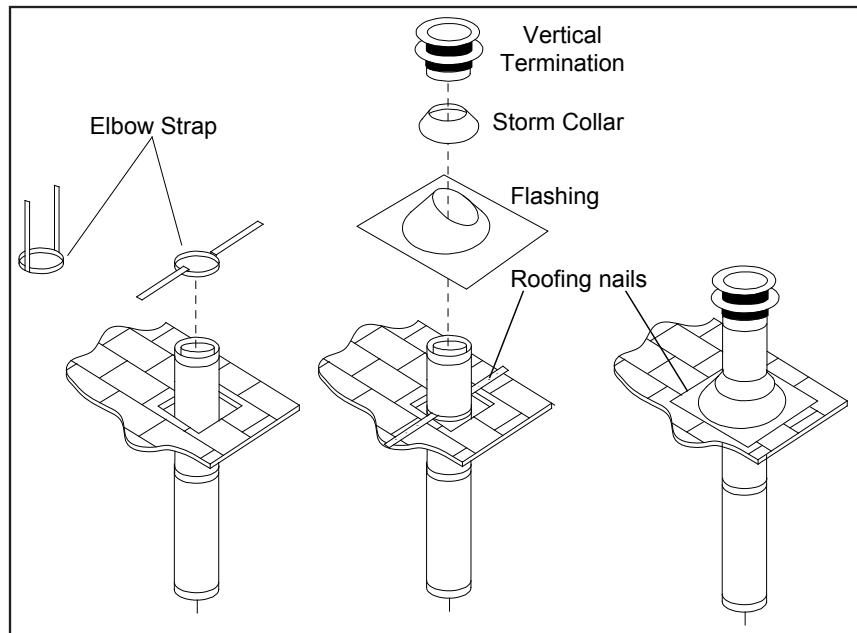

Figure 62: Vertical Vent Termination
Step 6. Once the pipe sections have been joined, and run up through the hole in the roof, slip an elbow strap over the exposed sections, bend the support straps outwards, and push the elbow strap down to the roof level, as shown in Figure 62. Tighten the clamp around the pipe section. Use a level to make sure the pipe is truly vertical. With roofing nails, secure the support straps to the roof. Seal the nail holes heads with non-hardening mastic. Trim the excess length of the support straps that extend out beyond the edge of the flashing.